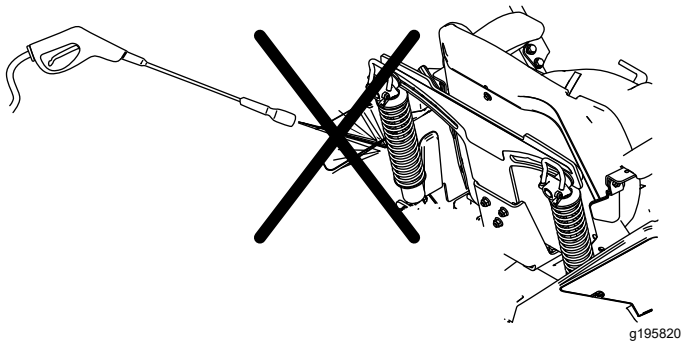

Figure 69
**Note:** Do not clean the shock assemblies with pressurized water (Figure 69).